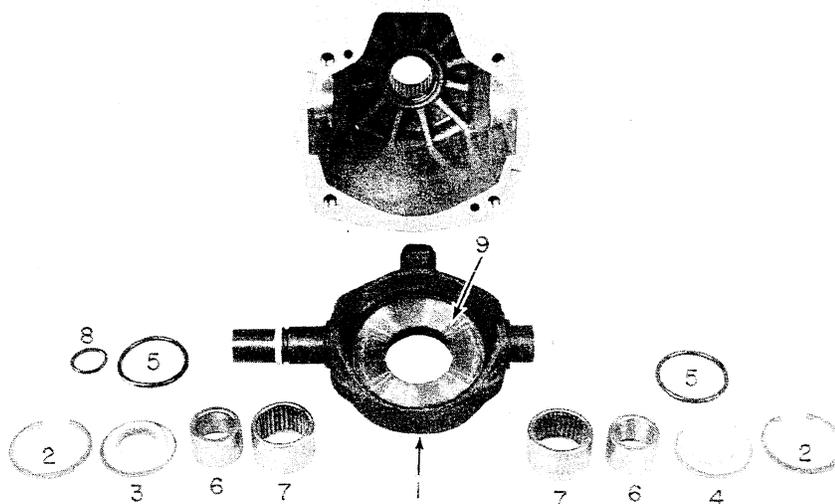
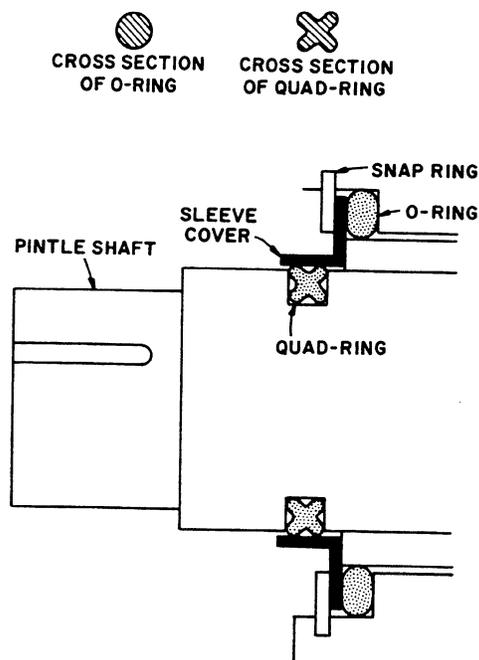

FIGURE 34
FIGURE 37
20. Figure 34 shows the cam plate removed from the housing. To remove the cam plate from the housing, remove the two internal snap rings (2) from the sides of the housing. Remove the two covers (3 and 4), the two O-rings (5), the two inner races (6), and two bearings (7). The cam plate can now be slid over to one side and removed. The two cam plate pivot bearings are a loose slip fit into the housing. Do not be concerned if they are not tight.
- B. Inspect the shaft (2) for any wear and replace as necessary. Replace thrust bearing and races (3).
- C. The cam plate (1), Figure 34, should be inspected for any scratches or scoring of the finish on the polished shoe surface (9), Figure 34. The surface should be smooth with no signs of scoring or flaking. Inspect the needle bearings and races for any wear. If the needles are free of excessive play and remain in the bearing cage, there is no need to replace the bearings.
- D. Inspect covers (3 and 4), Figure 34, for wear on the inside of the covers. If worn, replace.
1. The cam plate (1), Figure 34, should be installed in the housing first. Before installation, slide bearing inner races (6) over the cam plate shafts as shown. The numbered end of the race should face outward and chamfered I.D. should be inward. Install quad-ring (8) (coat with oil or STP) in the groove on the keyed end of the shaft, being careful that the quad-ring is not twisted. When properly installed, the quad-ring should appear as shown in Figure 37.
2. Slide the cam plate into the housing and install the pivot bearings (7), Figure 34, over the inner bearing race. The cam plate pivot bearings are slip fit. Install with the numbered end of the bearing out.
3. Install new housing O-rings (5), Figure 34, install trunnion cover (4), Figure 34, and secure with snap ring (2).
4. Install sleeve cover (3), Figure 34, and secure with snap ring (2).